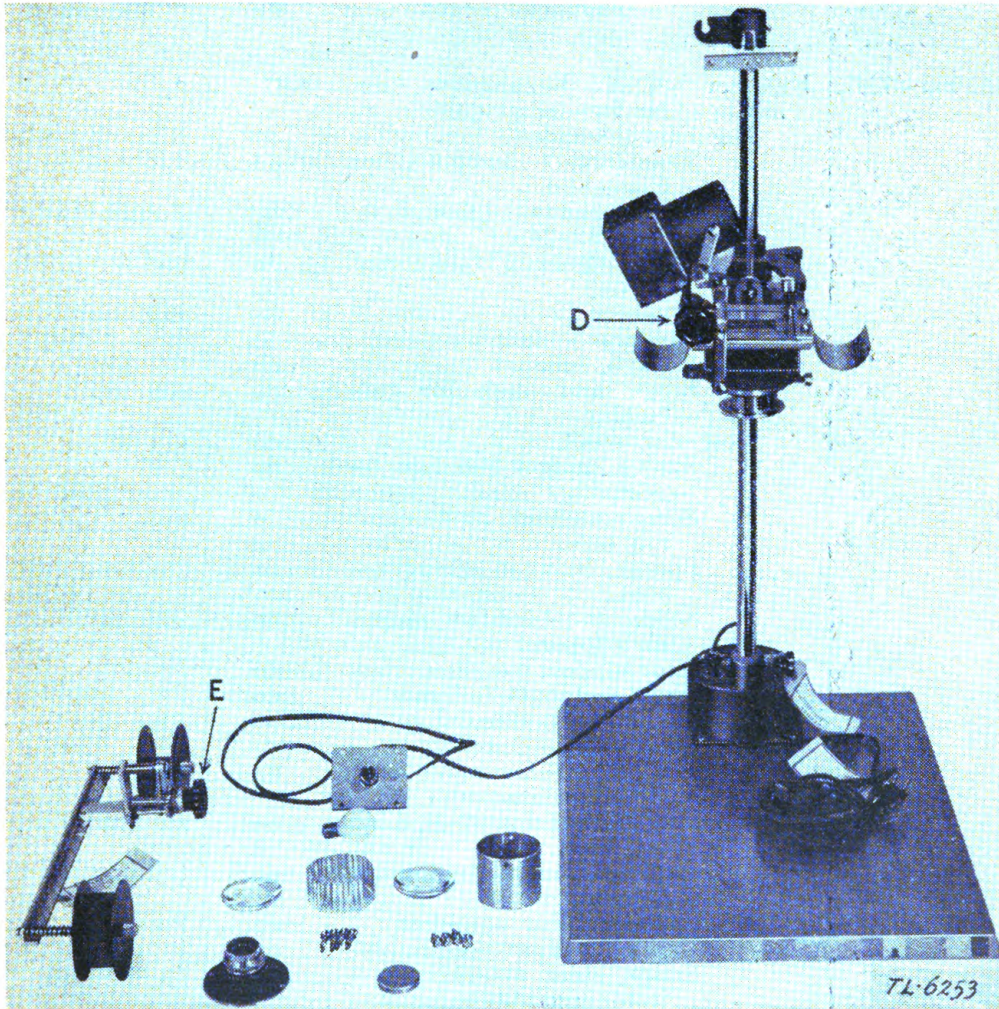

FIGURE 6.—Printer with lens, lamp, and condensers removed.
b. Condensing lenses.—To clean the condensing lenses, remove the four knurled screws holding the condenser housing to the lamp house (fig. 6). Hold the condenser housing with the right hand and press the film gate release lever with the left hand. This frees the condenser housing from the lamp house. Remove the condensing lenses from the housing by pressing carefully on the bottom lens with the thumb, thus forcing out both lenses and spacer. Clean the lenses and replace them in the housing. The curved surfaces of the two lenses should face each other when properly assembled in the housing. Slip the housing in position on the lamp house and replace the four screws.
33. Replacing lamp.—To replace the printer lamp, remove the four knurled screws on top of the lamp house and lift off the cover and socket assembly. (See fig. 6.) Remove the lamp by pressing